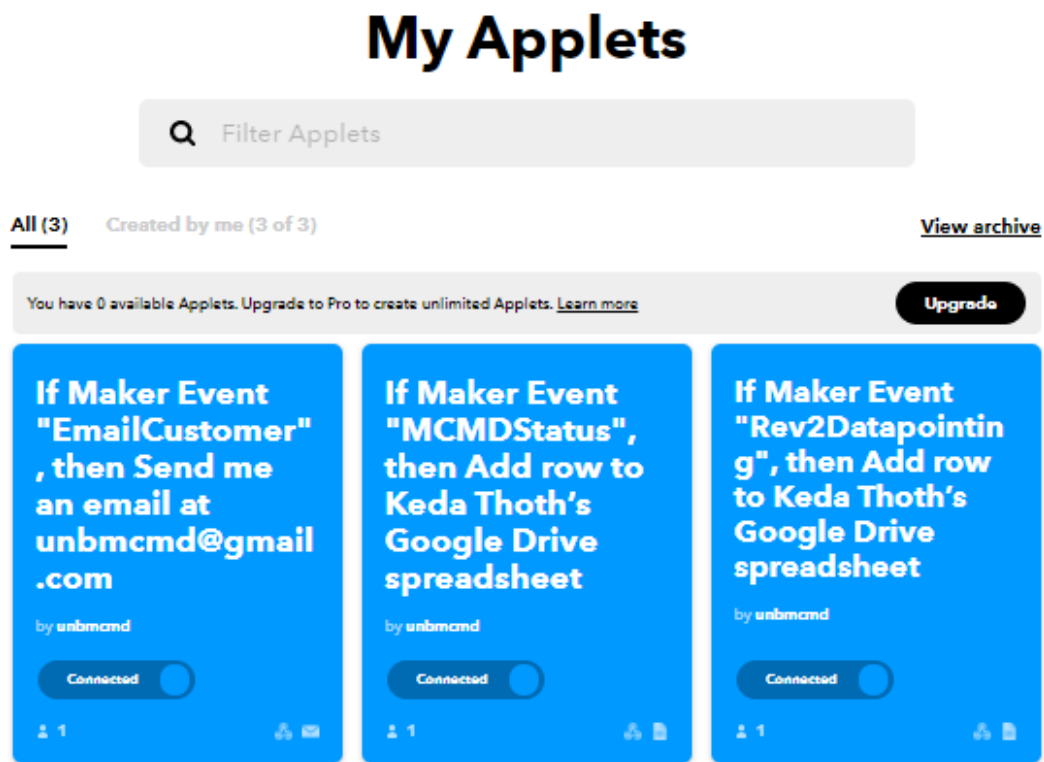

Figure 21. IFTTT Applets
- 3) You should see all the "Applets" used by the MCMD, as shown below in Figure 21.